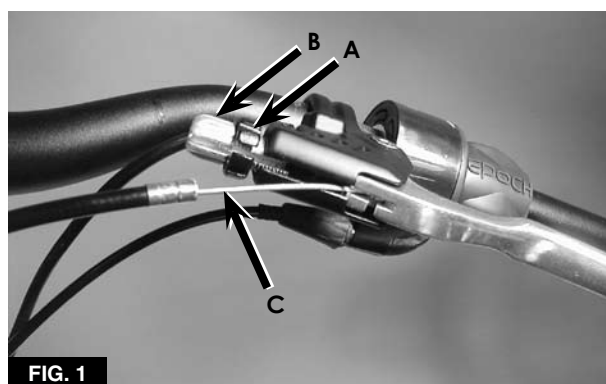

FIG. 1
5. At the brake lever, loosen the adjuster locknut (A, **Figure 1**) and turn the adjuster barrel (B) from the brake lever.
7. Pull the cable housing from the adjuster barrel (B, **Figure 1**), and slide the inner wire (C) through the slots in the lever housing, adjuster barrel and locknut.
7. Make sure the slots in the adjuster barrel and the locknut align with the slot in the brake lever housing (**Figure 1**).
9. Pull the cable housing, and slide the cable inner wire (C, **Figure 1**) through the slots in the brake lever, adjuster barrel (B) and locknut (A). Seat the cable housing ferrule into the adjuster barrel.